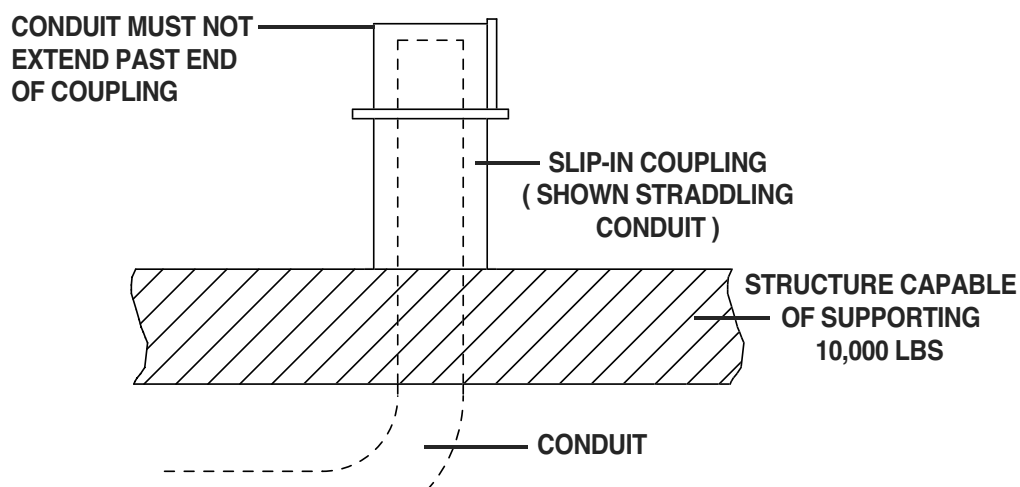

Figure 11a
2. Place the coupling over the conduit. The conduit must NOT extend past the end of the coupling. (See Figure 11a).